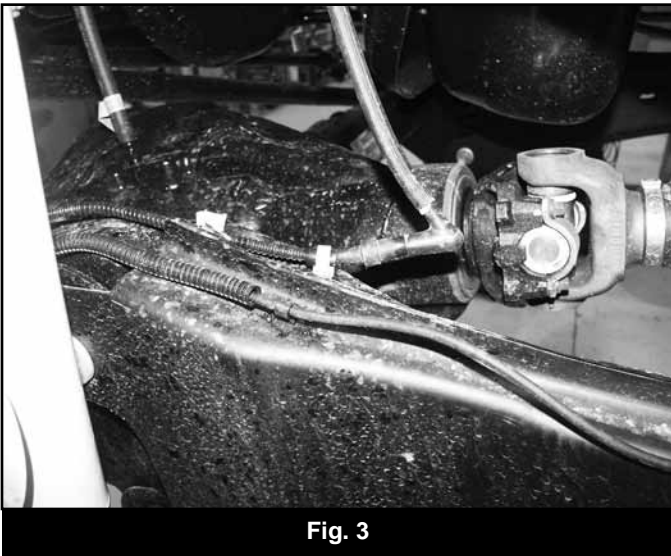

Fig. 3
8. Free the hub vacuum lines from the axle (Fig 3, 4).